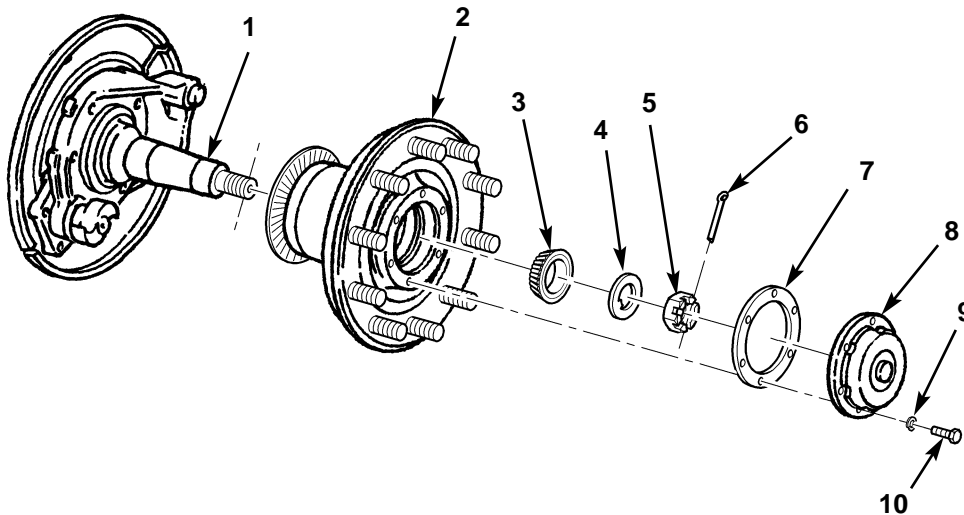

Figure 2. Removing Front Hub.
3. Position clean, dry drain pan under front hub (figure 2, item 2) and remove six bolts (figure 2, item 10), lockwashers (figure 2, item 9), cap (figure 2, item 8), and gasket (figure 2, item 7) from front hub (figure 2, item 2). Discard gasket (figure 2, item 7) and lockwashers (figure 2, item 9).
4. Remove cotter pin (figure 2, item 6), slotted nut (figure 2, item 5), and key washer (figure 2, item 4) from spindle (figure 2, item 1). Discard cotter pin (figure 2, item 6).
5. Remove outer bearing cone (figure 2, item 3) and front hub (figure 2, item 2) from spindle (figure 2, item 1).